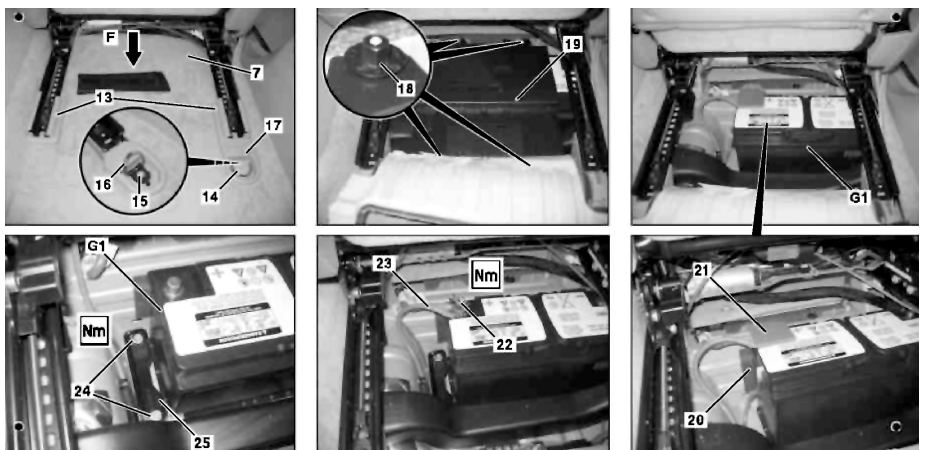

Fig. 1 Primary battery removal (Part 2 of 2)
when unclipping and clipping on ground line (12), **Fig. 1**.